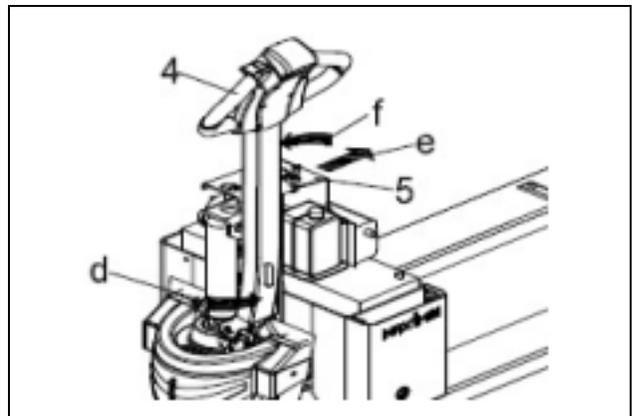

**Figure 3-3 Screw Removal**
- b. Remove four screws (1, Figure 3-3), four washers (2).